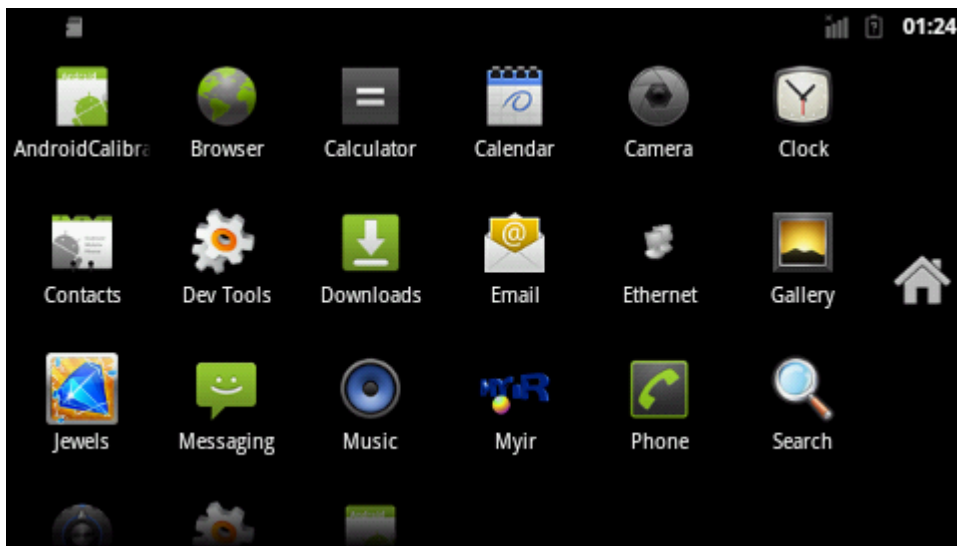

Figure 5-14
(4) Then press  flag into Select program interface. Refer to figure 5-14: